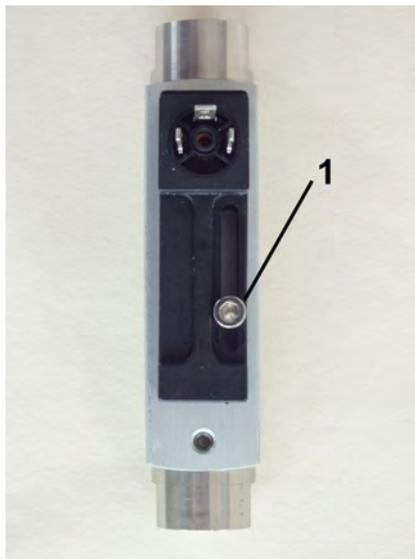

Fig. 32: Loosen set screw
2.  Loosen the set screw of the switch contact (Fig. 32/1) using a hex screwdriver.
6.  Re-tighten the switch contact set screw (Fig. 32/1) using a hex screwdriver. When doing so, observe the correct tightening torque of the screw.